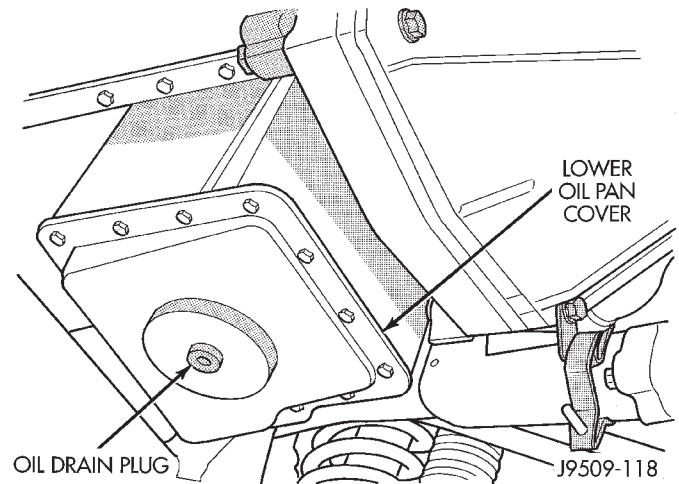

Fig. 46 Oil Pan
(1) Disconnect the negative battery cable.
(2) Raise the vehicle on hoist.
(3) Drain the oil.
(4) Remove the oil pan lower cover (Fig. 46).
(5) Remove the bolts from oil pan. Remove the 6 bolts that are on the inside of the oil pan.
(6) Remove the oil pan.